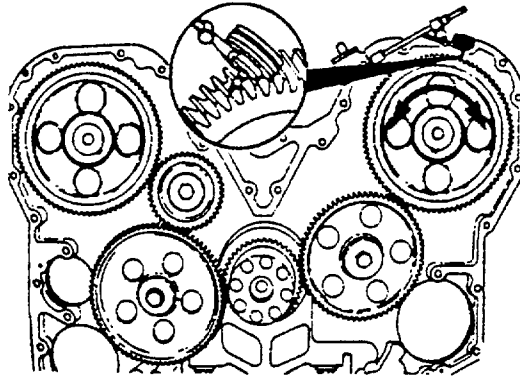

FIGURE 3-21. Front Gear Train Backlash Measurement.
- (1) Position dial indicator on a gear as shown in FIG. 3-21.